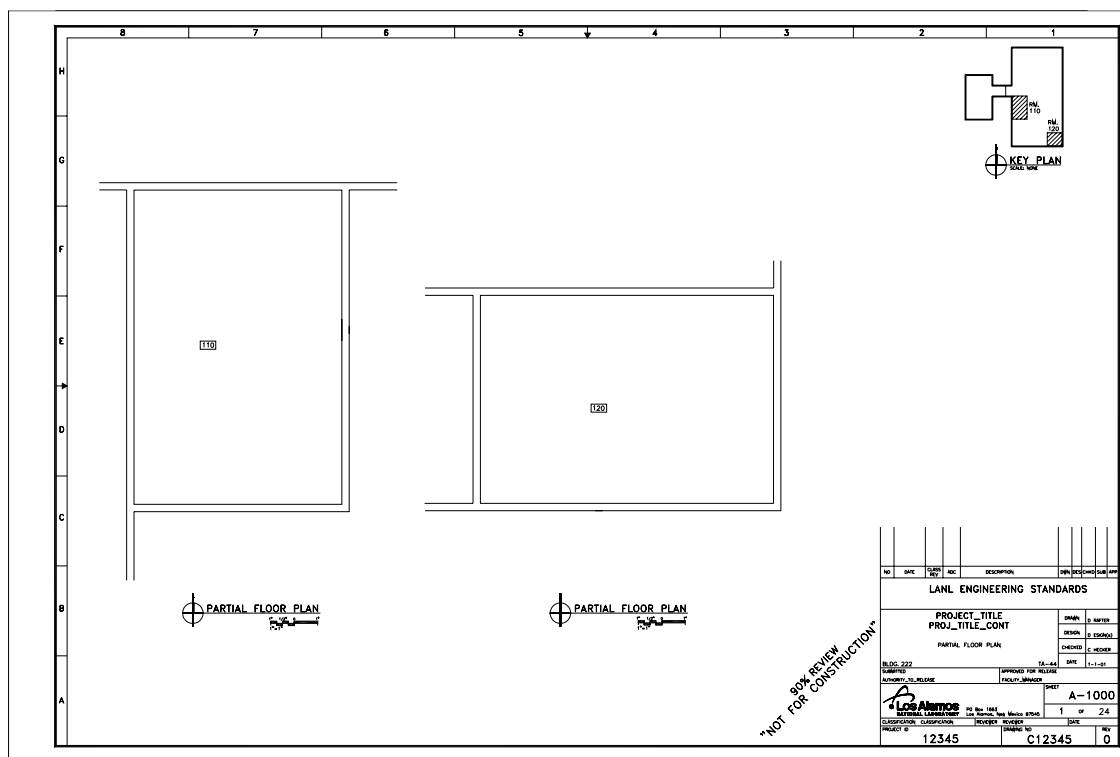

Figure 206-1
- Use a key plan (see Figure 206-1 above).
- B. In the illustration above, 3/32" text (the minimum allowable) is shown for the distance designations for all graphic scales because of the limited space available. The drawing scale designation text is shown at 1/8". These text heights were selected for graphic clarity. Graphic scales are to be right justified⁵ and 1/4" below the drawing title, see Figure 206-1 and 206-2 for examples.